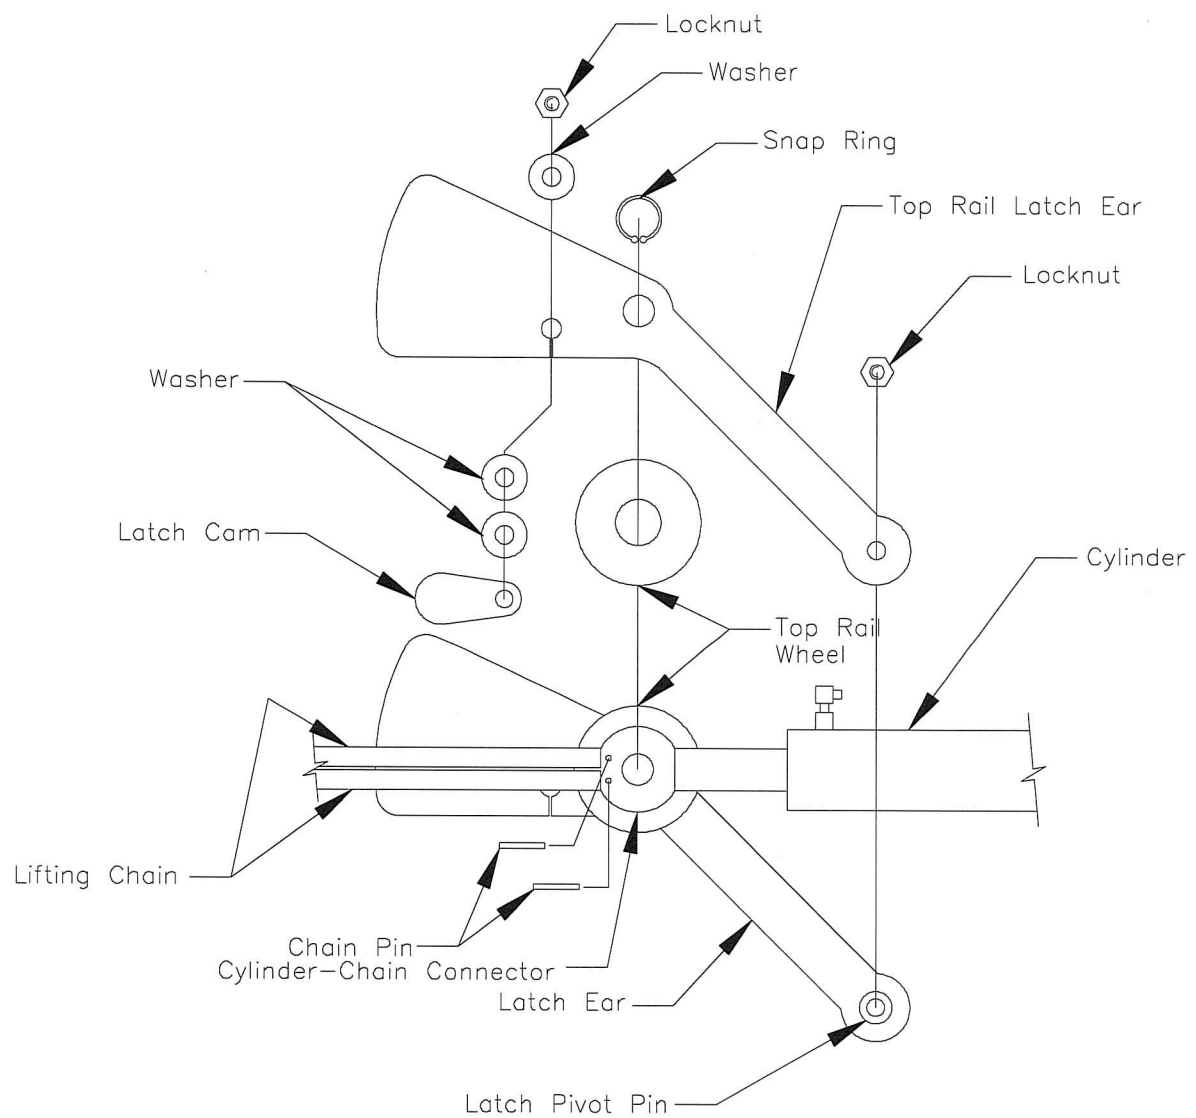

Figure 10. 12000 lb Lift, Single Point Safety Latch
- Latch ear drags on one side of the top rail tube. Adjust cylinder position by bending the cylinder locating ears on top of the tube near the chain connector end of the cylinder. If problem is not solved this way, loosen the attachment nuts on the latch pivot pin. See Figure 10.
- Latch will not stay up for reset and lowering. Check the cam for free operation, Figure 10. If latch drops during lowering, see above step.